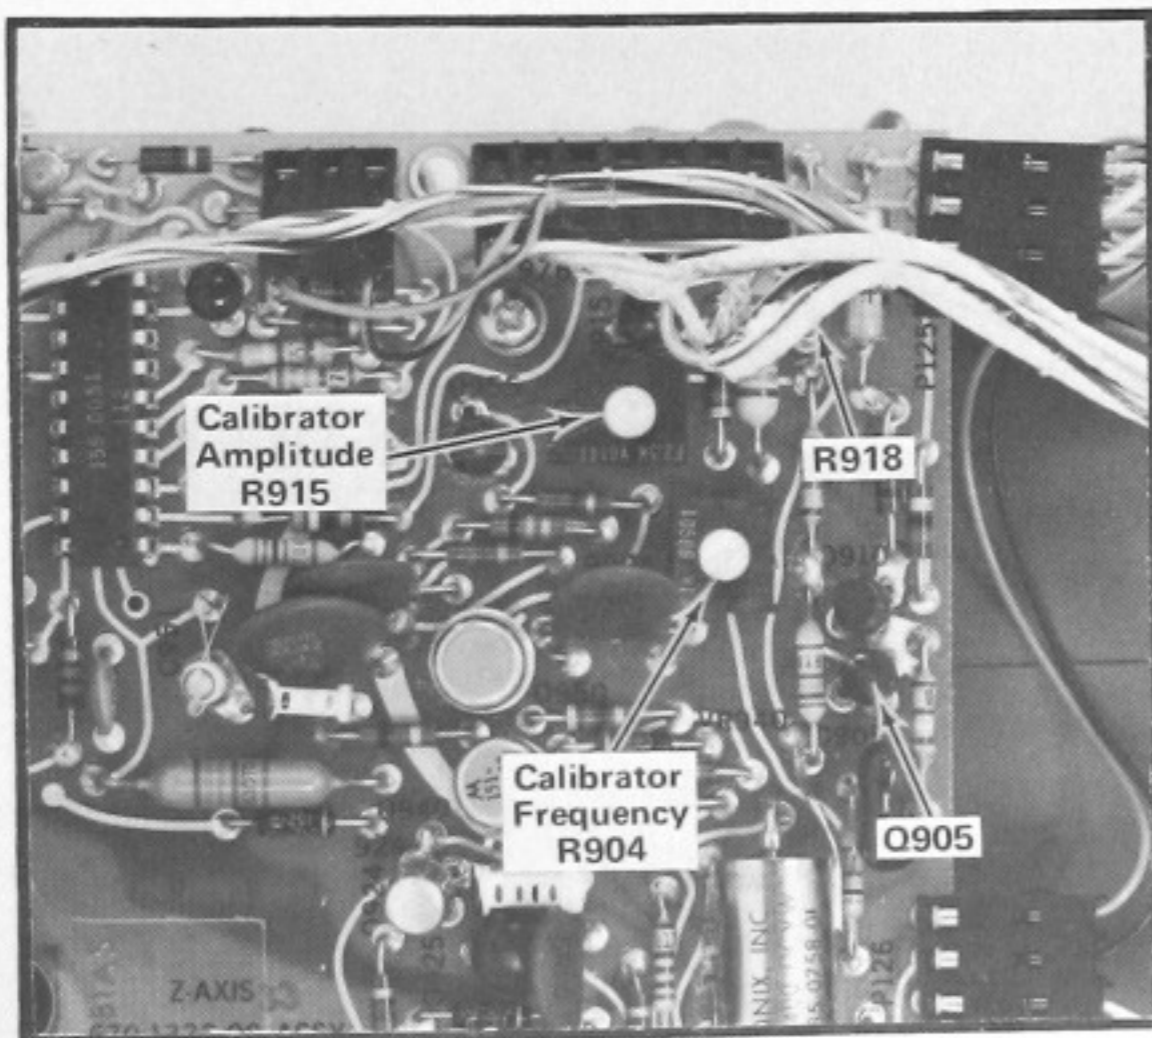

Fig. 5-12. Location of Calibrator circuit components.
- a. Remove Q905 from its socket (see Fig. 5-12).
- d. ADJUST—R915 (see Fig. 5-12) for a DC voltage measurement of 0.6 volt.
- a. Connect a 10X probe (432 standard accessory) to the CH 1 input connector. Connect the tip of the probe to the top of R918 (see Fig. 5-12).
h. ADJUST—If the limits of the CHECK— step are not met set the TRIGGER SOURCE to CH 1, TRIGGER COUPLING to AC, and the TIME/DIV to .2 ms. Adjust the TRIGGER LEVEL control for a stable display and adjust Calibrator Frequency adjustment R904 (see Fig. 5-12) for minimum drift of the time marks across the calibrator waveform. Recheck repetition rate accuracy in the manner given in steps a through g.